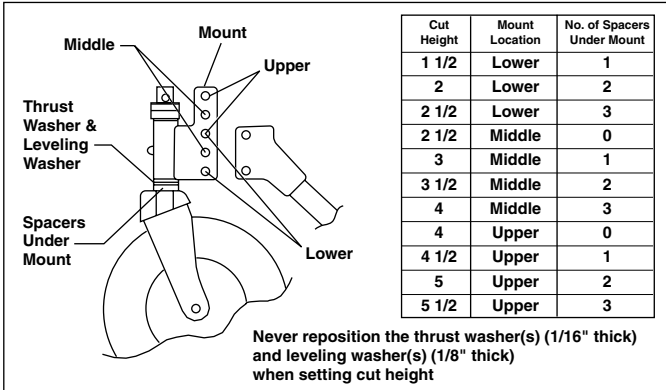

Figure 3E
2. Figure 3E shows the height adjustment decal for the casters.